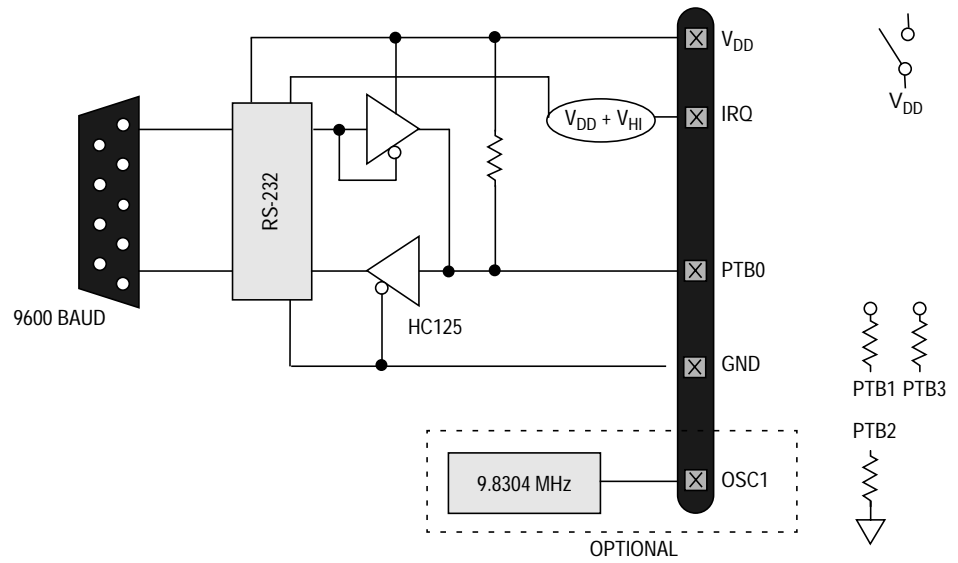
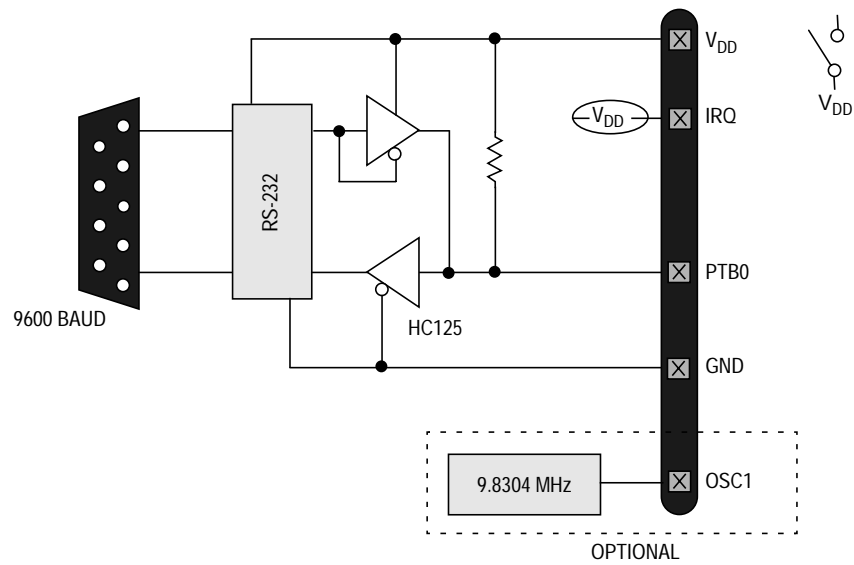

Figure 3. MC68HC908JL/JK Standard Monitor Mode (9.8304 MHz)
Figure 4. MC68HC908JL/JK Forced Monitor Mode (9.8304 MHz)
- c. RS-232 communications circuit and a 5-volt power source to power this circuit (see Figure 3 and Figure 4)
2. Connections (see Figure 3):
- a. Blank part with oscillator value from Table 2. See Figure 4.